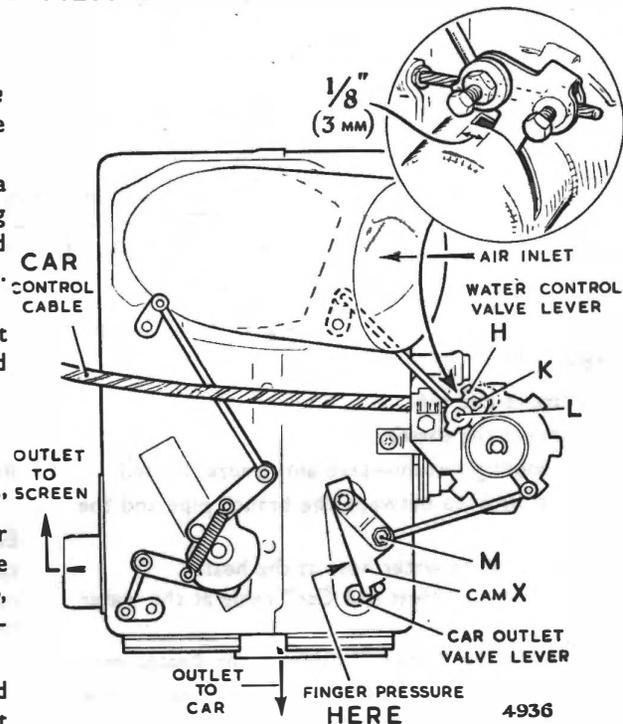

Fig. 6. Car control, water valve, air mixing valve and air outlet valve adjustment details
These valves are controlled by interconnected rods, cams and levers actuated by the dashboard "Car" and "Screen" controls which are connected by means of flexible cables to the water control valve lever (H) and the flap-valve (J) Figs. 6 and 7 respectively.
1. "CAR" Control (See Fig. 6)
- (b) The water valve lever is interconnected with the air mixing valve and the air outlet valve. When the water valve lever is fully anti-clockwise the air mixing valve should be at rest in the horizontal position; to check this slacken screw (L) (this will allow the valve to drop should it be out of position) and now retighten screw (L).
- (c) If the air outlet valve is not fully closed, move the "Car" lever away from the "off" position until the water valve lever (H)
$\frac{1}{8}$ " is (3.2 mm.) from the end of its slot (as shown in Fig. 6).